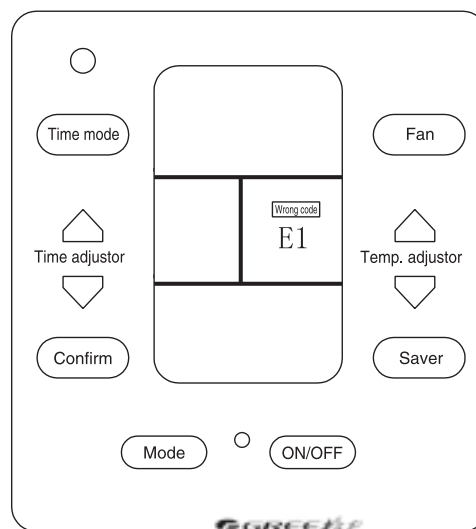

Fig.16 Example: When in high pressure protection of compressor, the error code indicated in the LCD is E1.
(8) When malfunction occurred, the indicator turning on, making a buzzer sound (as Fig.16), the meaning for the malfunction code as following: